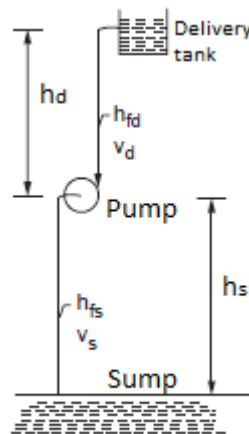

Fig. 6.4 Schematic diagram with suction and delivery pipes
**Answer:** The different types of heads used in centrifugal pump are as shown in figure 6.4, and are defined as follows.